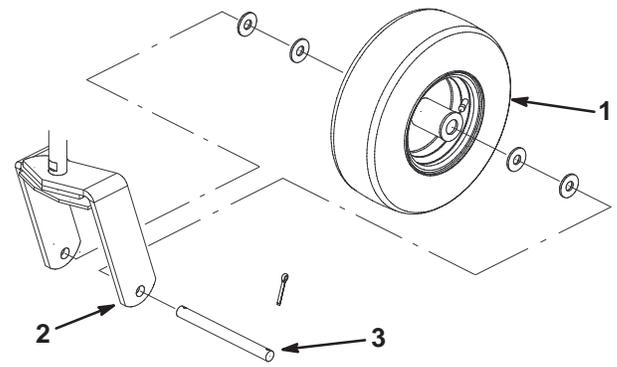

Figure 1
1. Install a castor wheel assembly between each castor fork with (4) washers, axle and (2) cotter pins (Fig. 1).